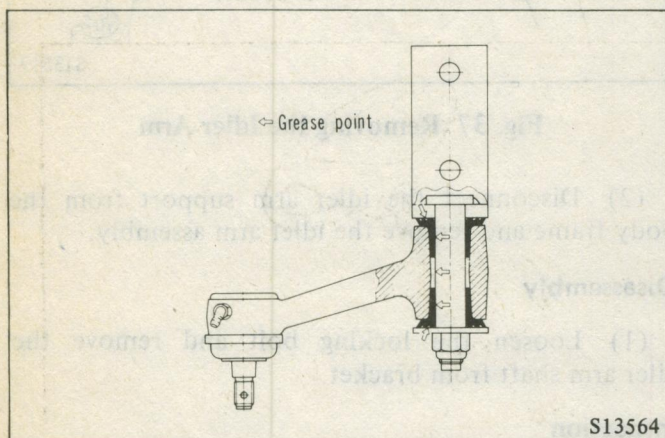

Fig. 38 Relative Position of Idler Arm and Support
(1) Apply neutral detergent to the inner surface of the idler arm and the outer surface of the bushing, and insert the bushing up to the flange of the bushing. If it is hard to insert, use a vice, etc. After the bushing has been inserted, wipe away the neutral detergent thoroughly.
(2) Apply a thin coat of grease to the shaft portion of the arm bracket and the inner surface of the bushing.
(3) Set the shaft portion of the bracket so the arm will be placed in the position shown (Fig. 38), and tighten to the specified torque.